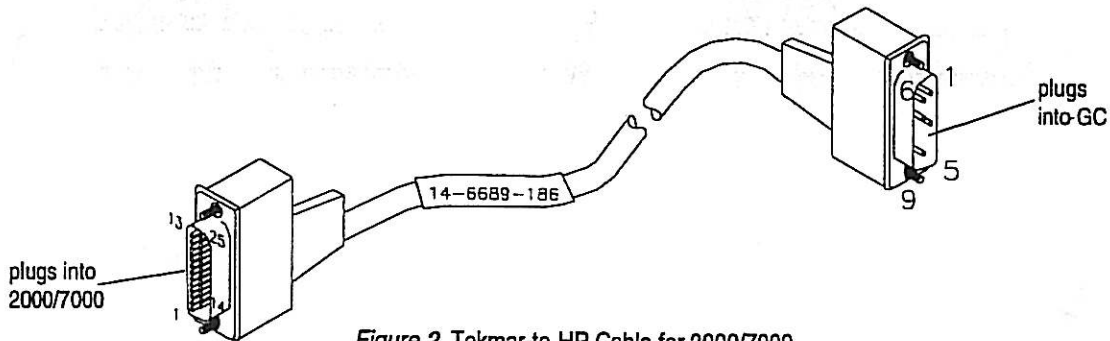

Figure 2 Tekmar-to-HP Cable for 2000/7000
- c. Referring to Figure 2 below, set the switches. To open the switches, press them down at the open label.